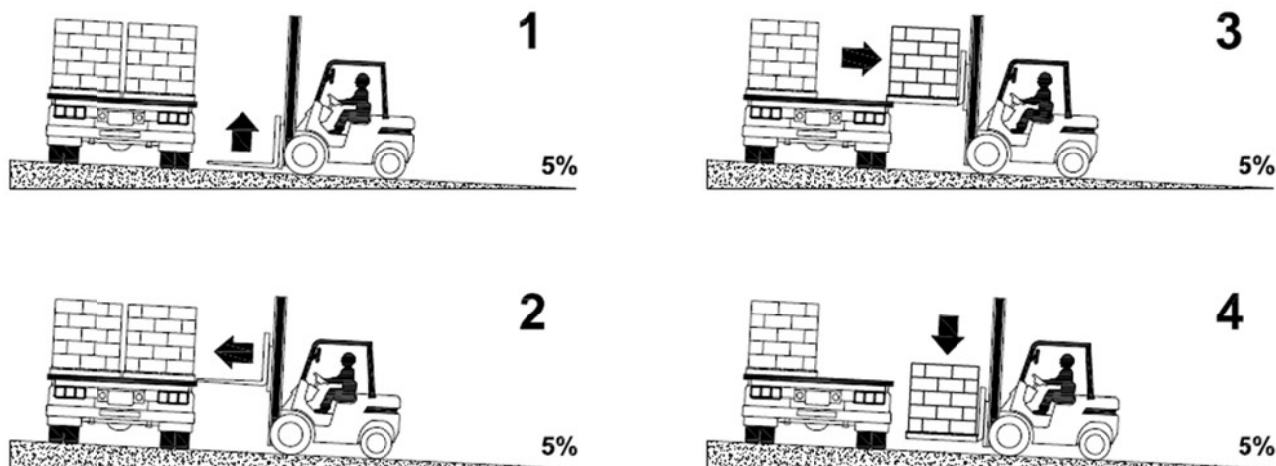
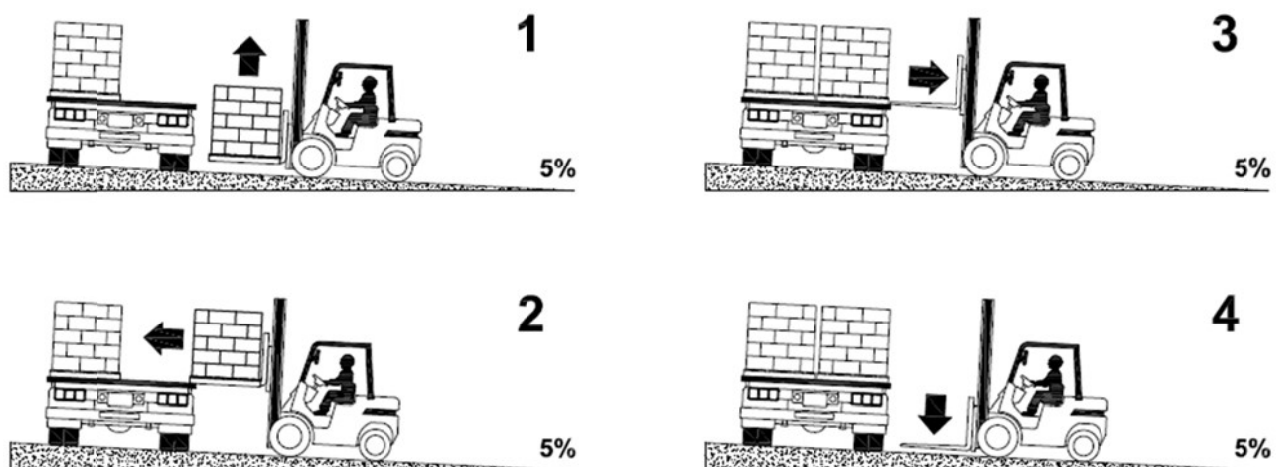

Fig 1
Fig 2
- ✓ Ensure that the truck or trailer to be loaded or unloaded is positioned across the incline/slope, ref Fig 1 & Fig 2.
- ✓ The industrial truck should be at 90 degrees to the road truck or trailer before raising or lowering the forks or load, ref Fig 1 & Fig 2.
- ✓ Lower the forks or load to the designated travel position before moving, accelerate smoothly with caution and travel should be extremely slow, ref Fig 1. step 4, Fig 2. step 4.
- ✓ The preferred option wherever possible is to work facing uphill as illustrations Fig 1 & 2.